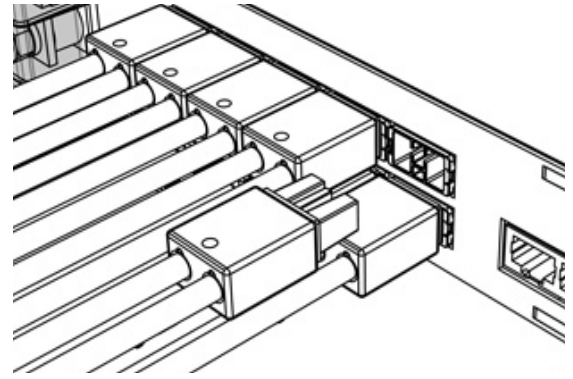

Figure 17. Connectorized output cables
Step 1. Insert the DC connectors into the outputs until they click. The connectors are keyed to ensure correct polarity (see Figure 17).